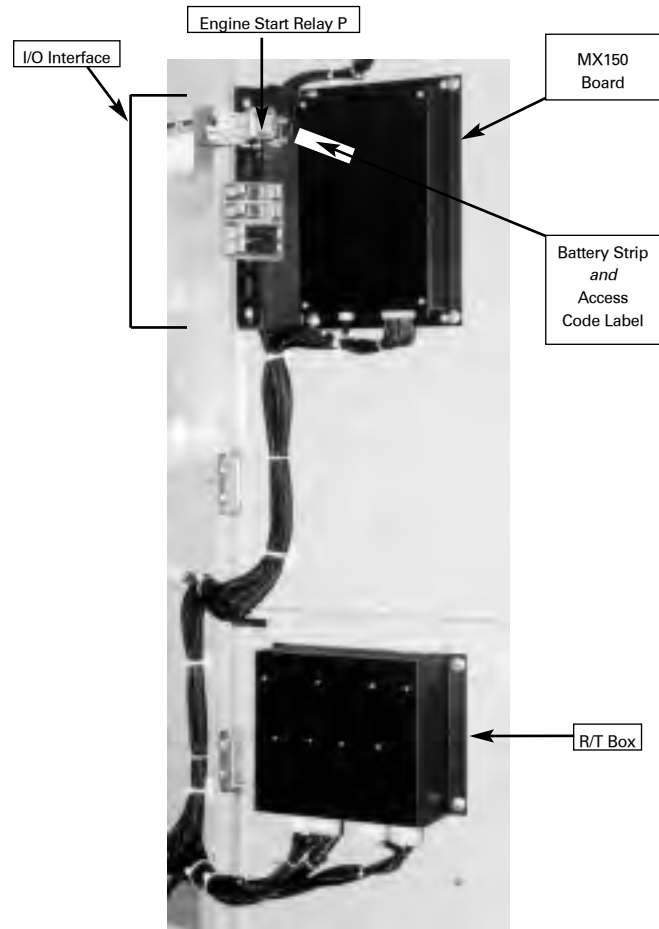

Figure 6
- A. MX150 Board - Customer Input and Output (I/O) for system interface. Located on the left hand side of the back of the unit (see figure 6)
II. The **R/T box** (relay transformer box) contains the following: (see figure 6)